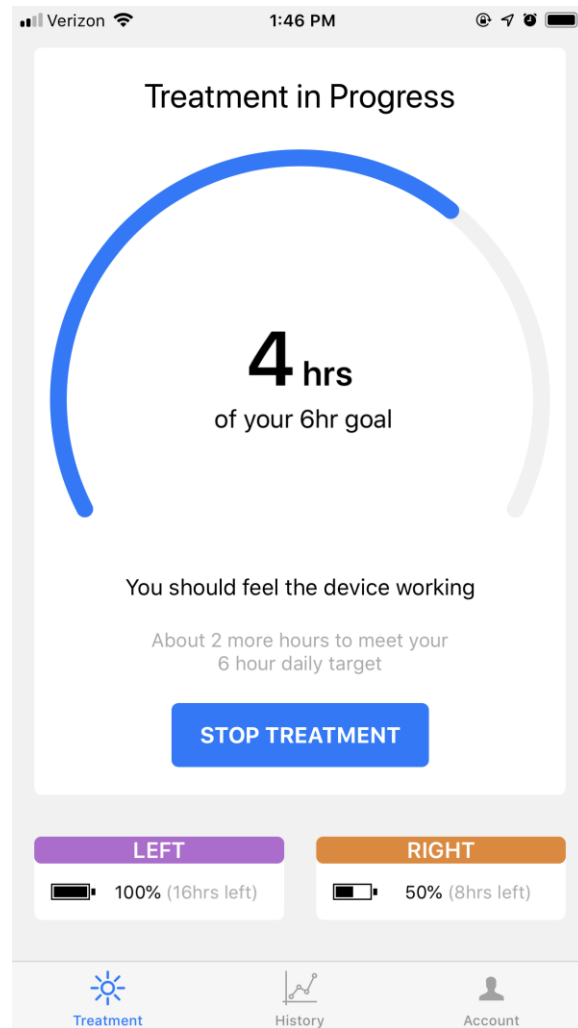

Figure 12. “Treatment-in-Progress” screen
2. Monitor therapy progress as illustrated on **Figure 12**.